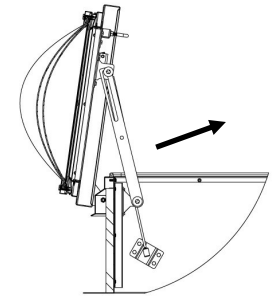

FIG 4
1. Disengage the locking hold-open feature by bringing the hold-open feature towards the center of the unit allowing it to clear the indented slot. FIG 4. Hold it clear until bolt is on visible slot.